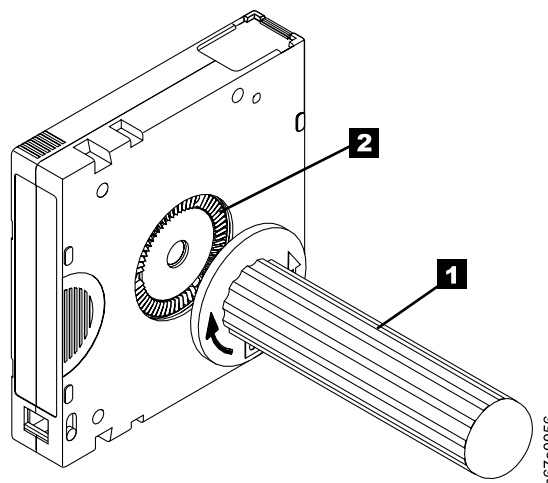

Figure 207. Rewinding the tape into the cartridge
5. To rewind the tape, insert the cartridge manual rewind tool ( **1** in Figure 207) into the cartridge's hub **2** and turn it clockwise until the tape becomes taut.